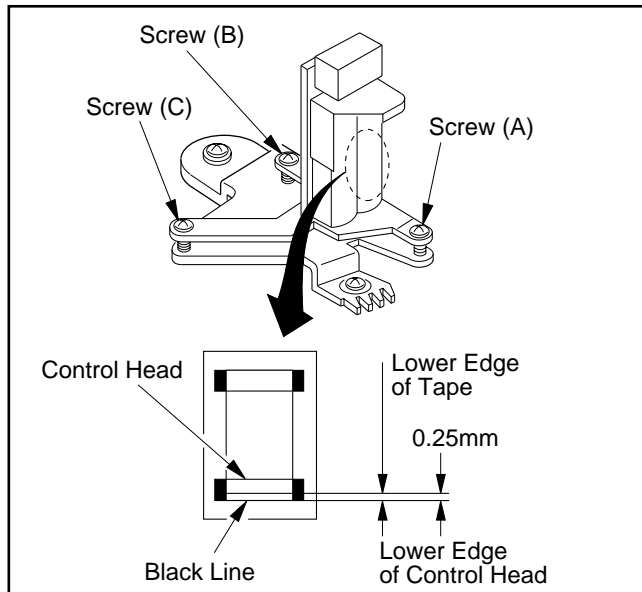

Fig. M13
2. If adjustment is required, turn Black Screw (B), shown in Fig. M13, clockwise until curling is apparent at the lower edge of P4. Then turn Black Screw (B) counterclockwise until the curling smooths out.
3. Adjust Black Screw (C) on the head base, shown in Fig. M13, so that the output level is at maximum.
4. Readjust Black Screw (A), shown in Fig. M13, for maximum output.